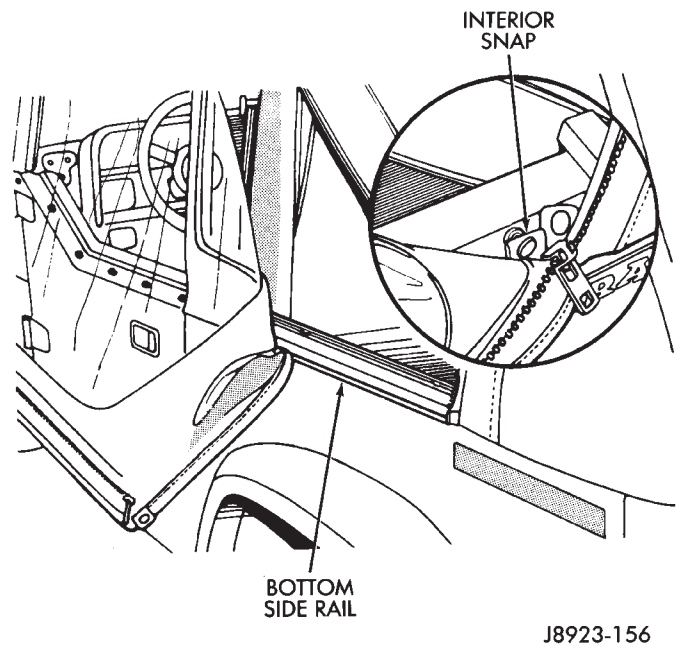
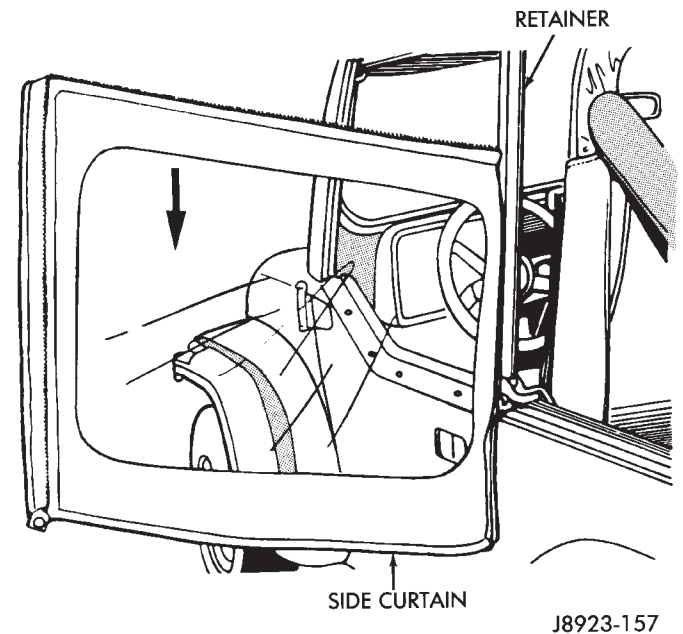

Fig. 103 Side Curtain and Lower Side Retainer
Fig. 104 Side Curtain Removal/Installation
(5) Detach the interior snap-on retainer and tab, and pull the bottom edge of each side curtain out of the lower side retainer channel (Fig. 103).
(10) Slide the front edge of each side curtain upward into the retainer channel on the center bow (Figs. 104 and 117).
(11) Close top zipper on each side curtain 5 - 8 cm (2 - 3 in). Next, close the rear zipper at the bottom corner of the curtain 5 - 8 cm (2 - 3 in).
(12) Attach the side curtain front and rear tab snap-on retainers to the lower side retainer (Fig. 103).
(13) Completely close both side curtain zippers.
(14) Pull downward firmly on the side curtains. Start at one end and move toward the opposite end. The bottom edge of the curtains must be completely inserted in the lower side retainer channels (Fig. 103).